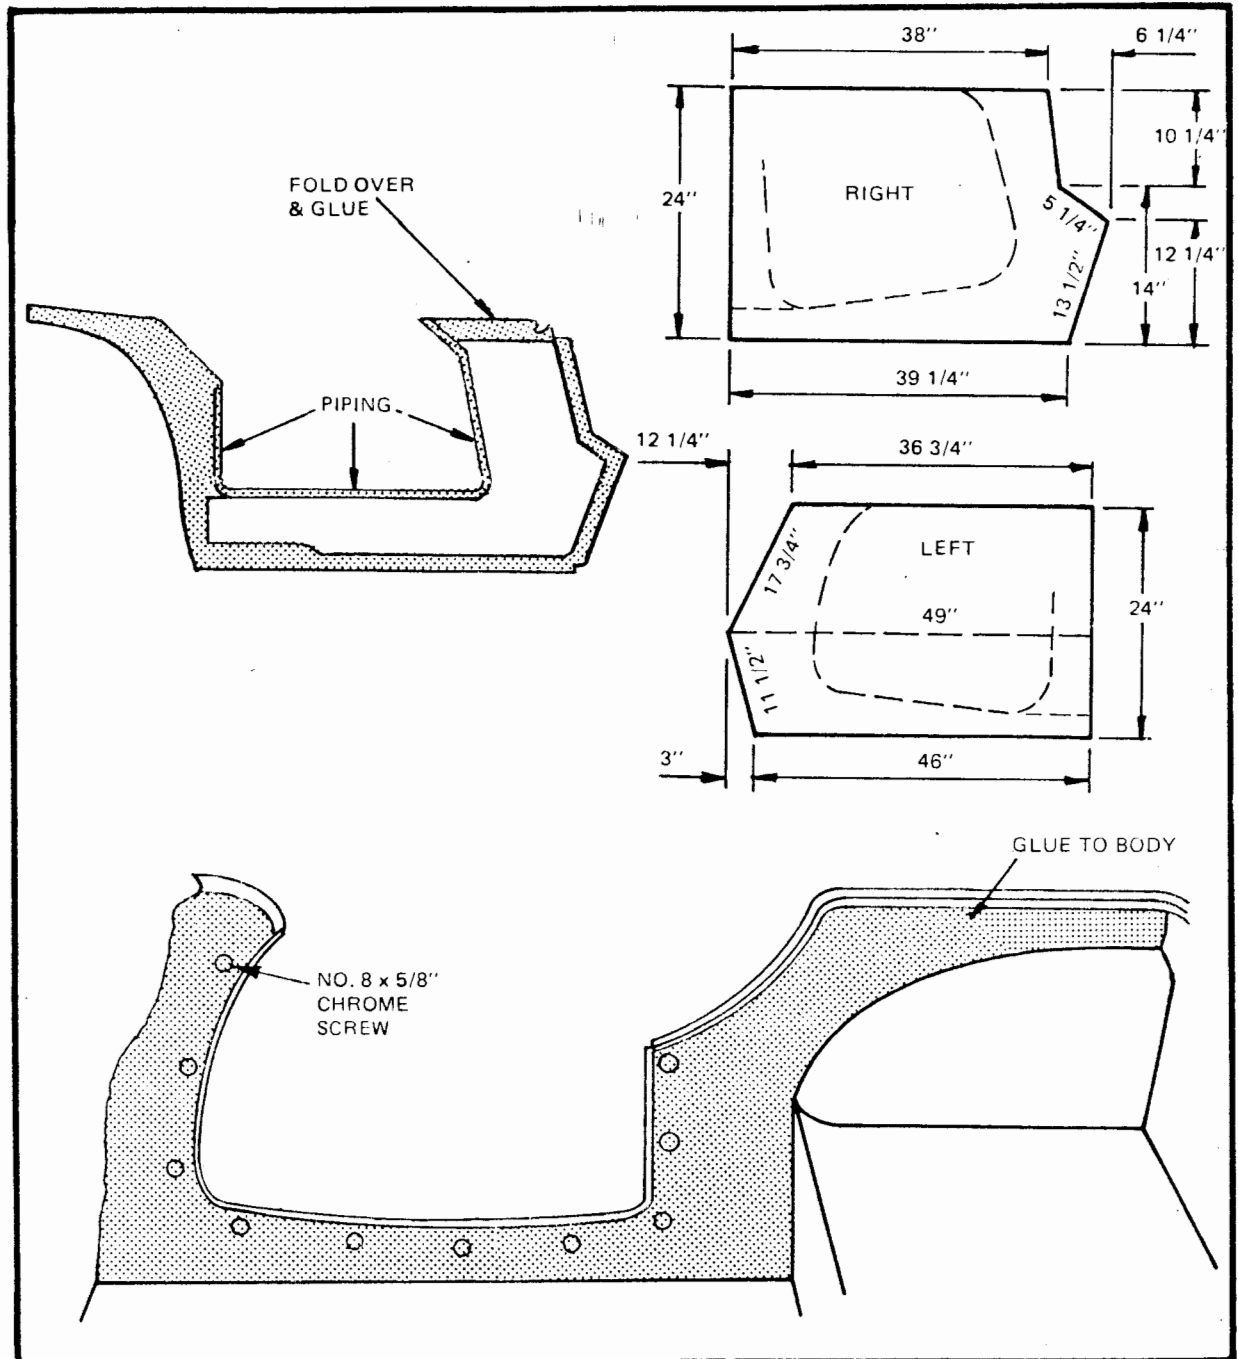

Figure 71
- Side sections fit around the door openings, extend forward to the firewall and back over the wheel hump. They must be mounted on a piece of heavy cardboard or paneling before they can be installed. This is due to the configuration of the body around the doors. As a basic pattern cut a piece of cardboard to the sizes indicated. (Figure 71)